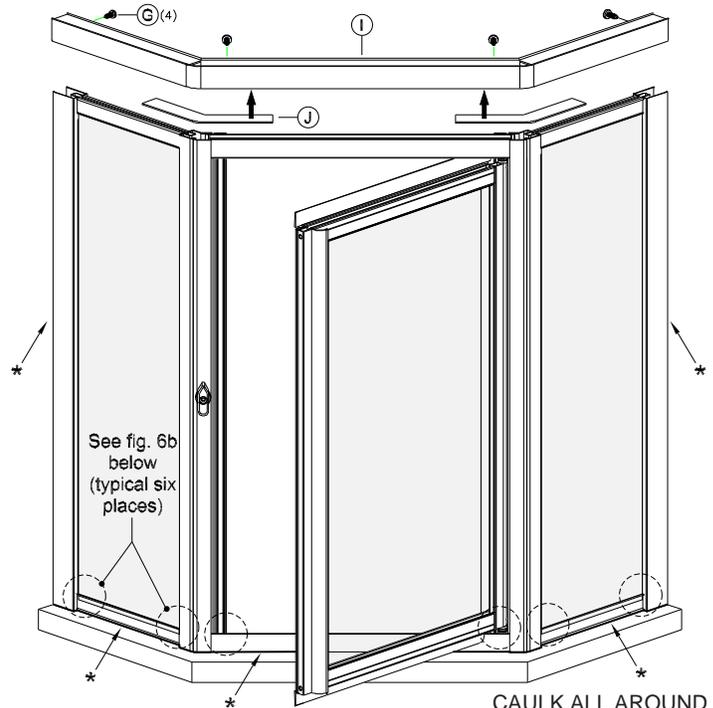
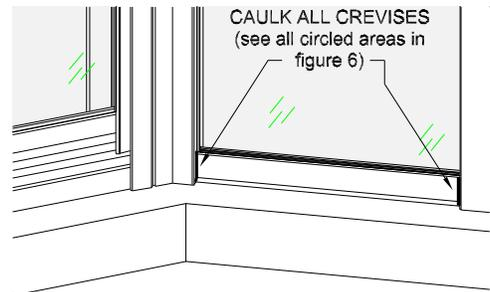

Fig. 6
Fig. 6b
**Second:** from inside the shower unit, caulk the six (6) circled areas indicated in figure 6 above (caulk the crevise where the horizontal member meets the vertical member as shown in figure 6b).